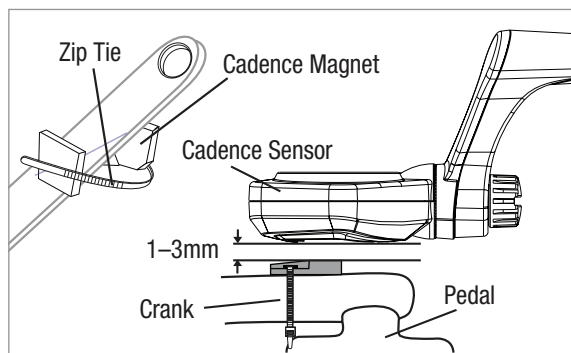

Figure 3
2. Position the larger part of the sensor close enough to the crank arm that the required distance between it and the cadence magnet is achieved (fig. 3). Checking operation of the sensor is most easily done with the bike in a repair stand rather than doing it while riding.